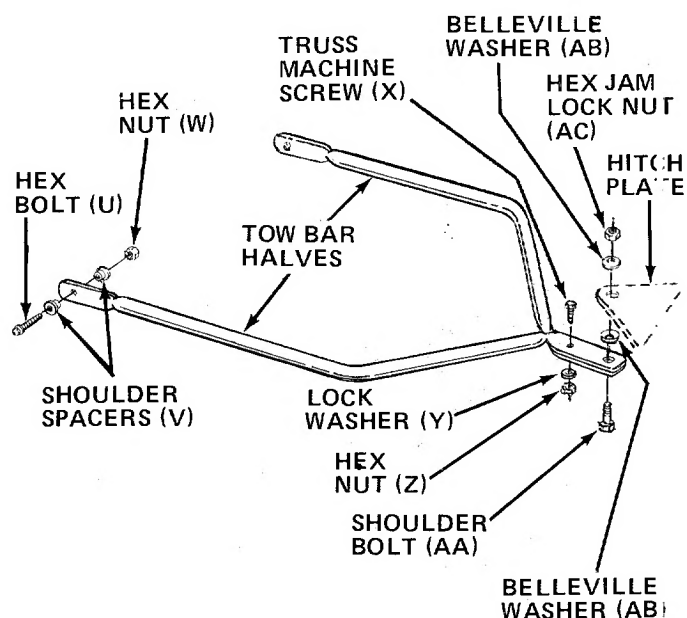

FIGURE 15
2. Place tow bar half in position on frame. Place one shoulder spacer (V) between frame and tow bar. Next, place shoulder spacer (V) and hex bolt (U) through tow bar and frame. Secure with hex nut (W). See figure 15. Repeat for other side.
3. Secure the two tow bar ends together with truss machine screw (X), lock washer (Y) and hex nut (Z). See figure 15.
To attach the tow bar to a hitch, place the shoulder bolt (AA) up through the tow bar. Place one belleville washer (AB) on the shoulder bolt, then the hitch plate and the other belleville washer. Cupped side of the washers must be against the hitch plate. Secure with hex jam lock nut (AC). See figure 15.